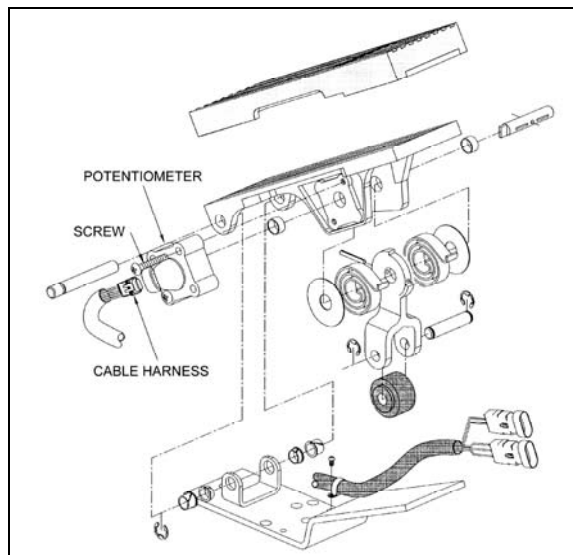

FIGURE 16: ELECTRONIC FOOT PEDAL ASSEMBLY 03035
3. Discard potentiometer (Fig. 16).
4. Position new potentiometer. Press potentiometer onto the potentiometer shaft, matching cutouts in shaft to drive tangs of potentiometer. Apply hand pressure until potentiometer has bottomed out in housing. Reinstall screws (Fig. 16) and tighten just enough to secure potentiometer lightly. Tighten screws to 10 - 20 lbf-in (1.5 - .2 Nm).